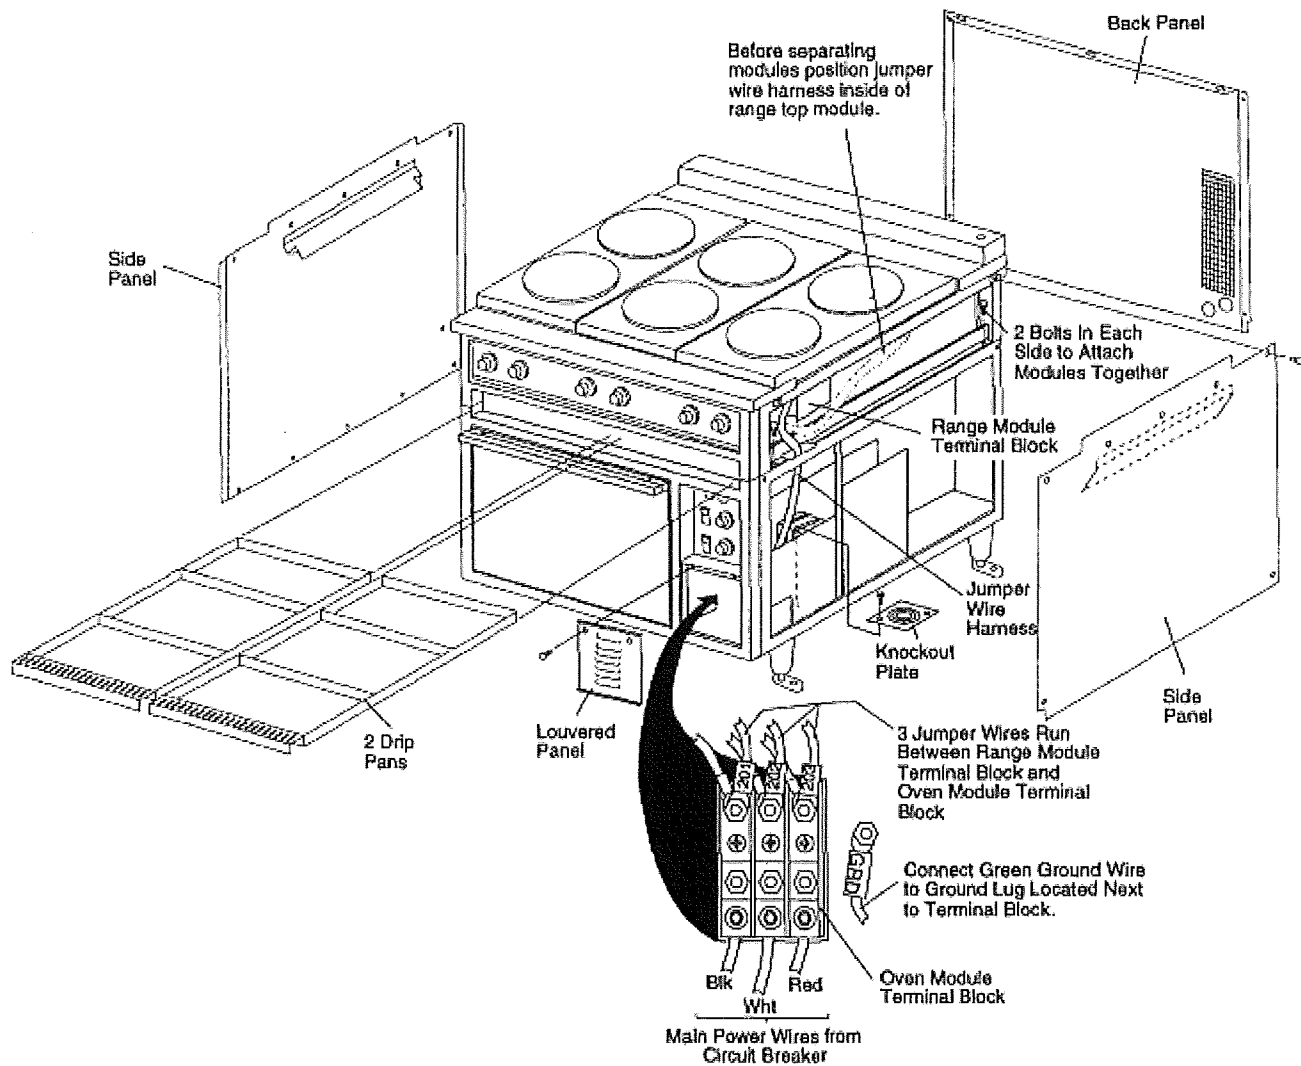

Figure 2-1
2. Remove the following (refer to Figure 2-1):
4. Attach range top to oven using two 5/16" hex bolts on each side of oven (4 bolts total, furnished). Refer to Figure 2-1.
5. Thread jumper wire harness from range top through oven base frame opening and connect wires marked 201, 202 and 203 to terminal block as shown in Figure 2-1.
2. Remove knockout plate located below terminal block on oven floor as shown in Figure 2-1. Knockout desired hole in knockout plate. Reassemble knockout plate to floor of oven.
3. Connect main power wires from circuit breaker to terminal block as shown in Figure 2-1.